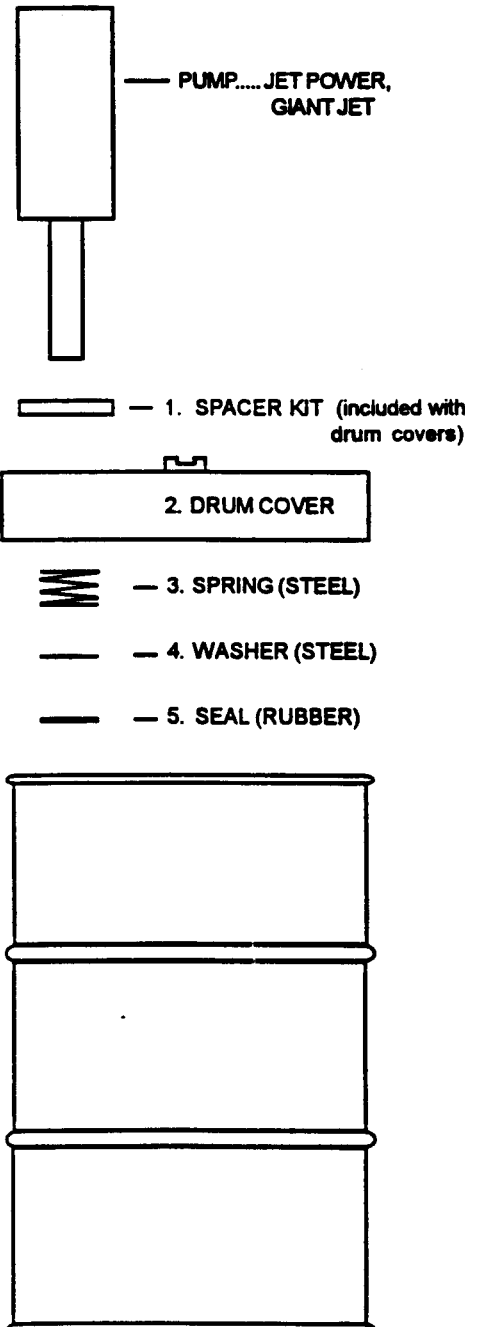

Figure 1
2. Refer to installation instructions for kits 7120-006 & 7120-007 for completion of the bung seal kit for under the drum cover installation (see figure 1).